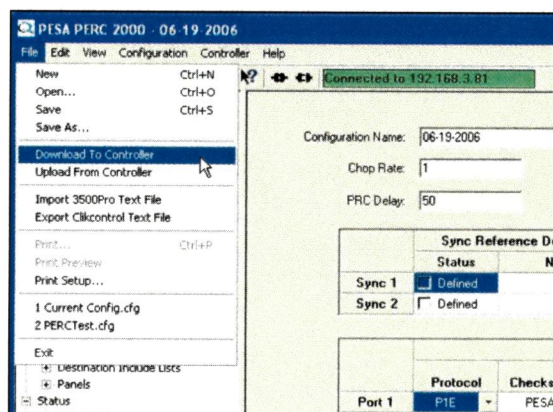

Figure 50. Download to Controller Command Location
7. Once the configuration file loads, click on the File menu in the Windows™ menu bar and select the “Download To Controller” option from the menu as shown in Figure 50.